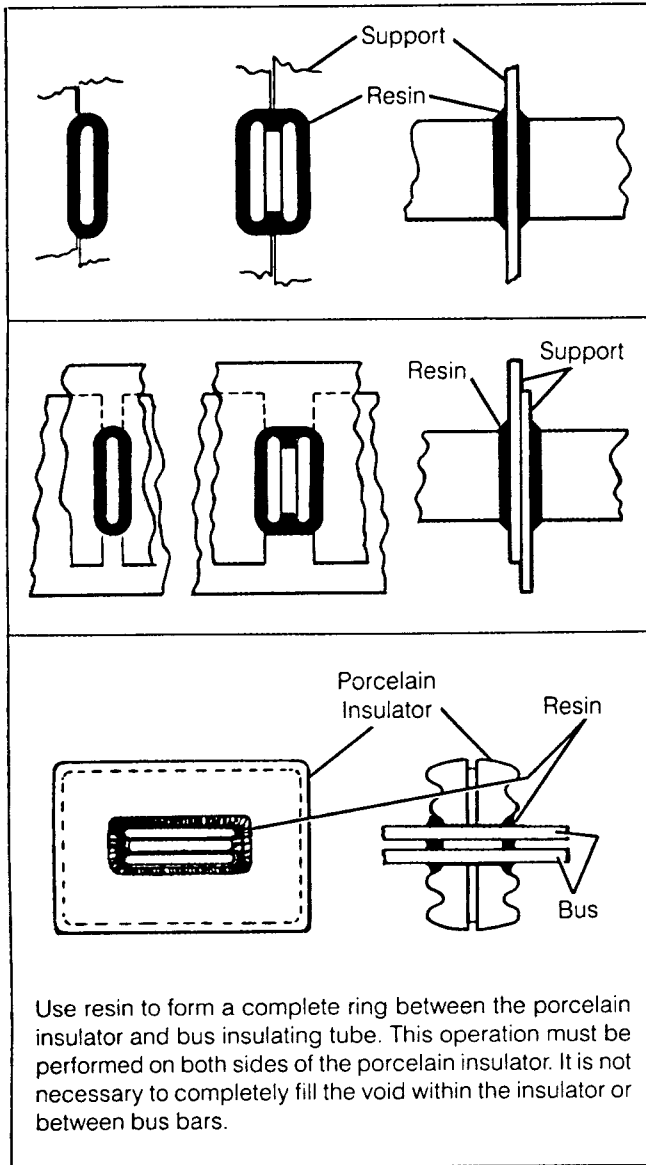

Figure 53. Caulking Bus Supports
2. Apply caulking material to make a continuous fillet completely around the bus bar insulation at the support (Figure 53). Make sure all air voids between insulation and support are filled. The material will cure completely in 24 hours at room temperature. Pot life is approximately 45 to 90 minutes.